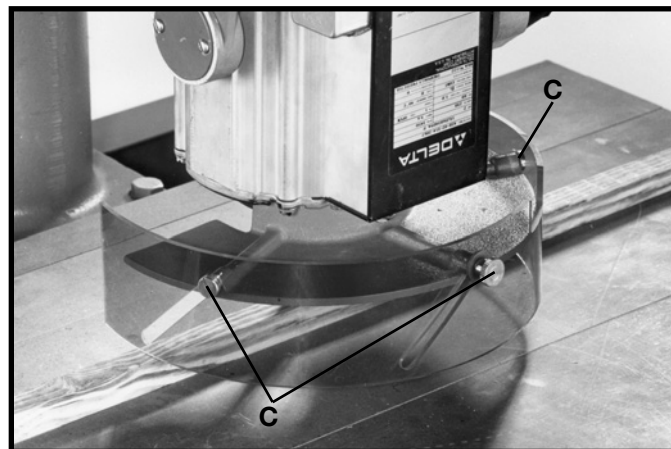

Fig. 61
4. When using the moulding cutterhead, the motor should be positioned as shown in Fig. 61. The height of the guard (A) Fig. 61, can be adjusted by loosening three screws (C).